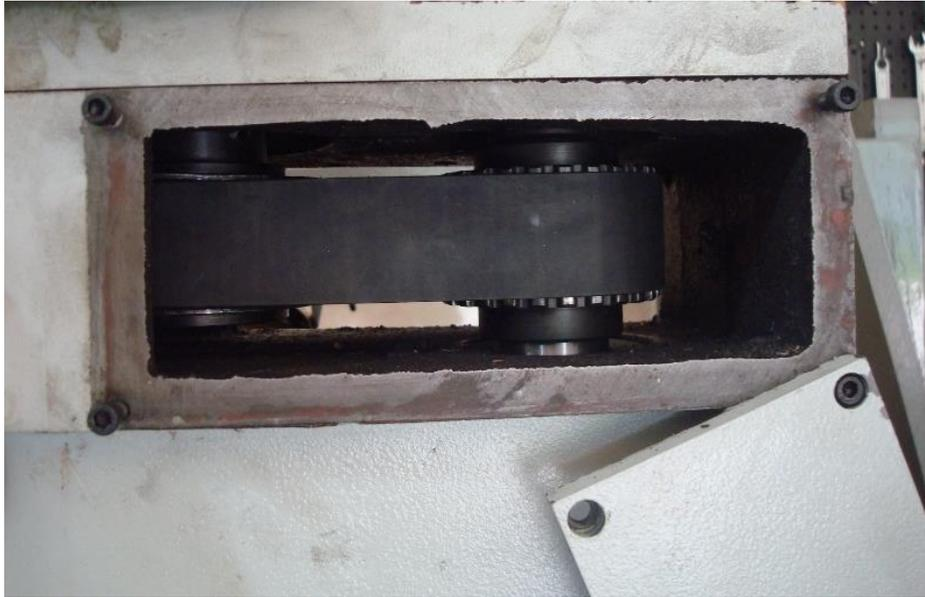

Figure 3-52 Spindle COG Belt
- 6) Secure the AC spindle motor to the one inch thick plate with the four Allen head screws. The cog belt should ride in the middle of the spindle pulley (Figure 3-52). Remove slack from the cog belt as you tighten the motor's Allen head screws. Do not over tighten the belt as this could shorten the life of the spindle and motor bearings. Reassemble the two side plates covering the cog belt.